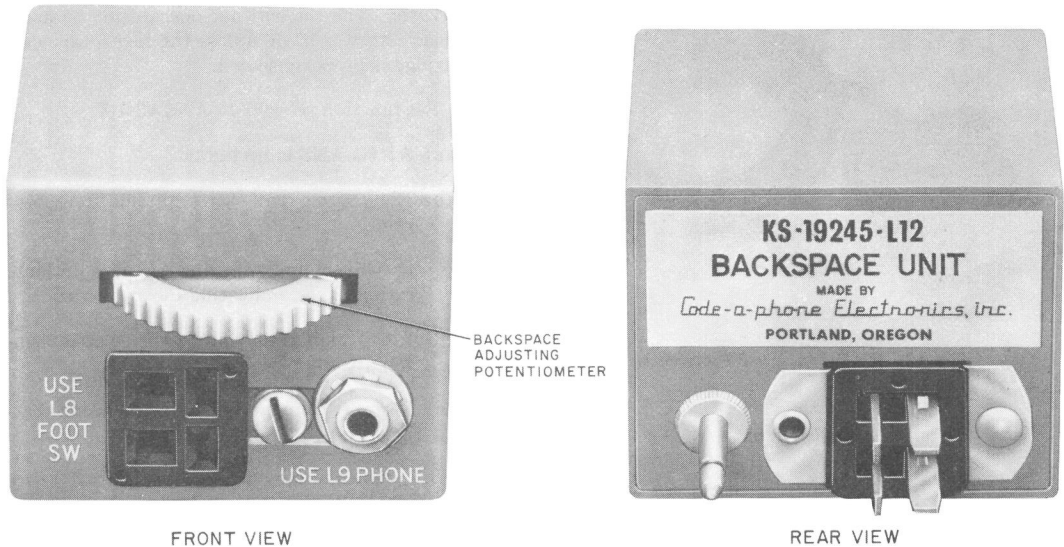

Fig. 19—KS-19245, List 12 Backspace Unit
(Fig. 19), allows automatic backspacing of the message tape a few words each time the playback activated control on the foot switch pedal is released. The user can control the amount of backspace (up to approximately 12 words) by adjusting the backspace control. Automatic
**4.17 Backspace Unit KS-19245, List 12 (Fig. 19):** Perform the following.